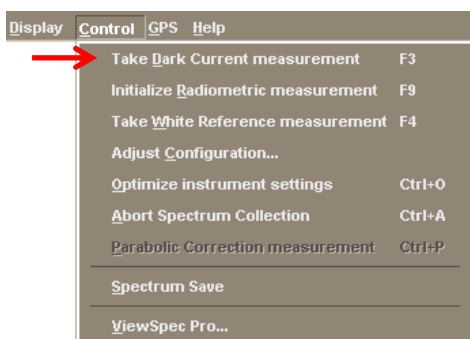

Figure 3-22: RS³ dark current pull-down menu
- Or use the keyboard command [Alt+C, D], the F3 hotkey, or select “Take Dark Current measurement” from the *Control* pull-down menu (Figure 3-22).